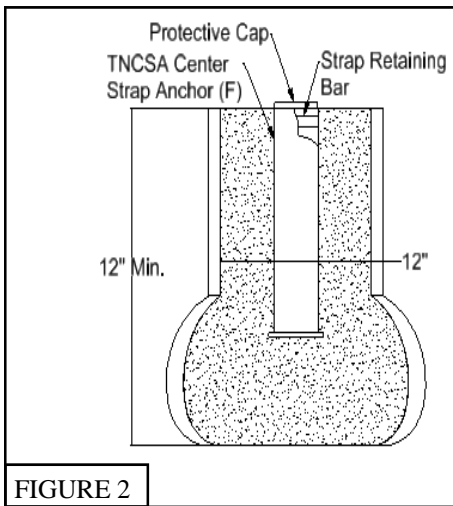

FIGURE 2
3. Dig one 8" round and a minimum 12" deep hole centered between the two pickleball posts (make sure to bell out the bottom of the hole). Insert *TNCSA Center Strap Anchor* (F) with the strap retaining bar running parallel with the *PK10NXL Net* (D) and fill hole with concrete. The hole will require 2 to 3 1/3 cubic bags of concrete. See Figure 2.
4. Concrete must cure 7-10 days before continuing with *PK10NXL Pickleball Net* (D) installation.
5. Stretch out *PK10NXL Pickleball Net* (D) across the court.
10. Attach *TN10CS Center Court Hold Down Strap (E)* to the strap retaining bar in the *TNCSA Center Strap Anchor (F)*. Adjust *TN10CS Center Court Hold Down Strap (E)* so top of *PK10NXL Pickleball Net (D)* measures 34" at the center. See Figure 2.